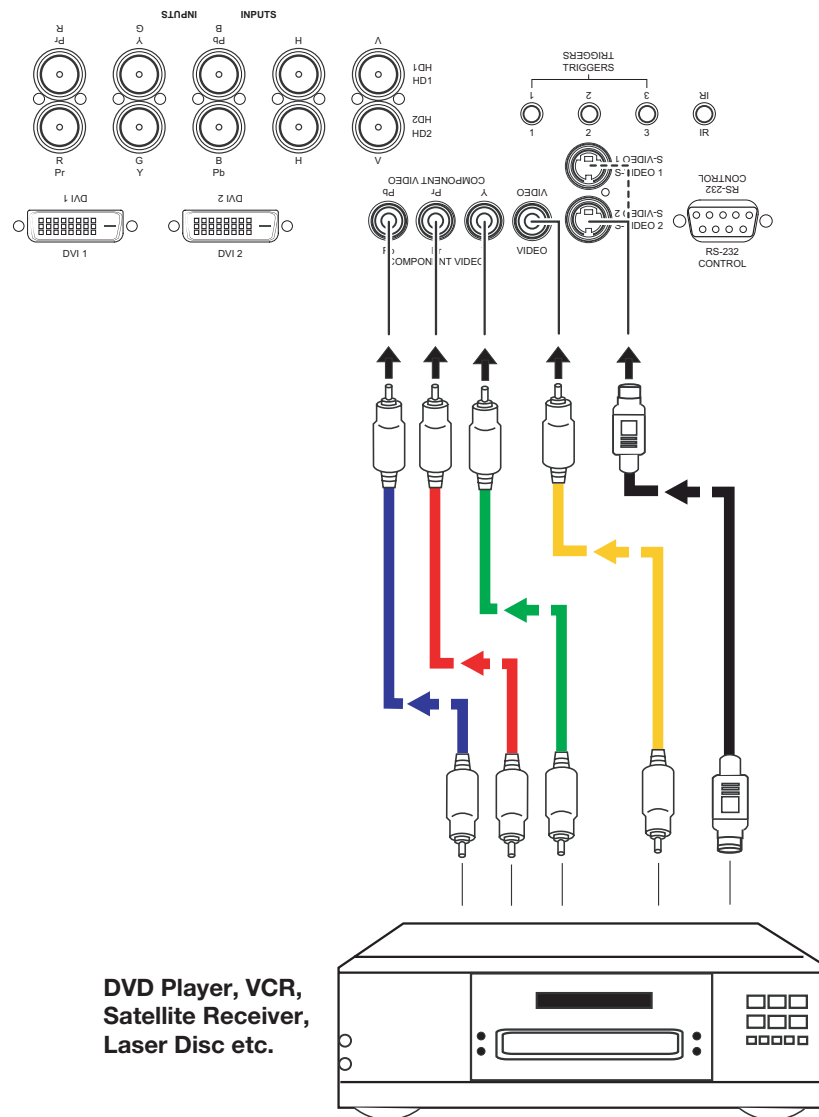

**Figure 3-9. Composite, S-Video and Component Video Connections**
**Composite/S-Video/Component Video Connections: See Figure 3-9.**